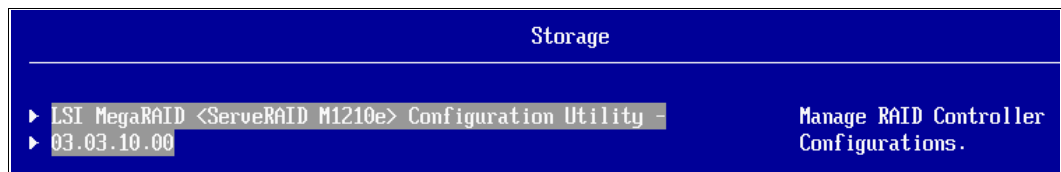

Figure 5-18 Launching the MegaRAID Configuration Utility for the ServeRAID M1201e
1. Enter UEFI setup by selecting **F1** when prompted at boot time. Access the LSI Configuration Utility from the menu by selecting **System Settings** → **Storage** → **LSI MegaRAID <ServeRAID M1201e> Configuration Utility**, as shown in Figure 5-18.